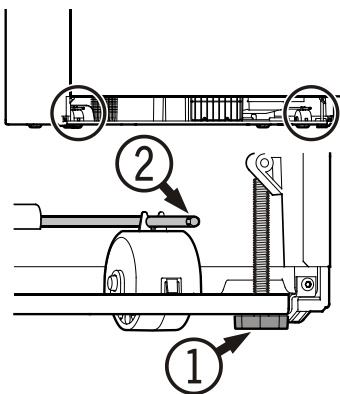

Figure 19
Leveling the Appliance - Figure 19
To prevent the appliance from tipping forward the leveling feet ① (Figure 19) must have contact with the floor.